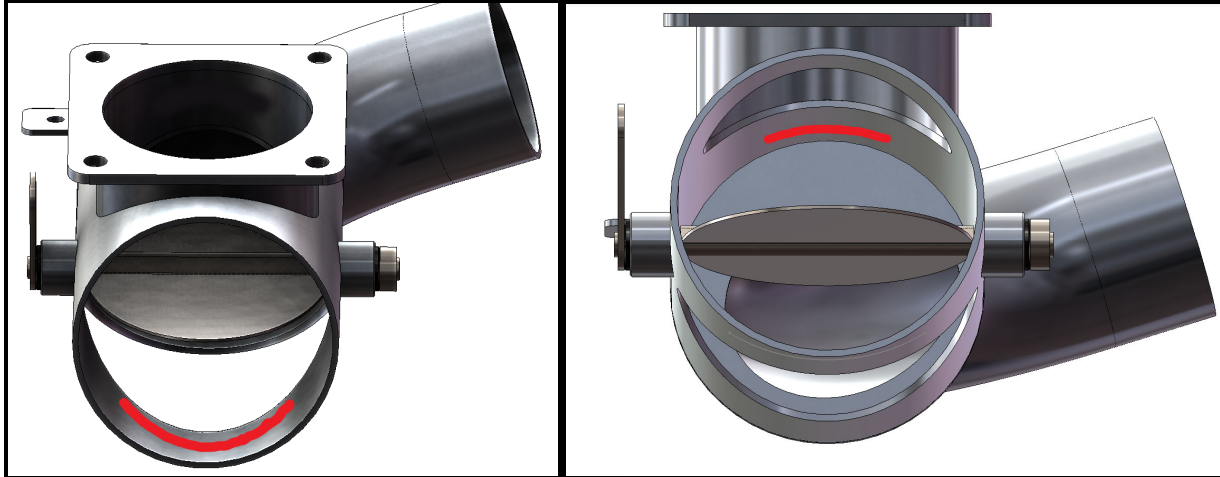

Figure 1 - Butterfly Valve Possible Fretting Locations
5. Visually inspect for any sign of fretting between the carburetor heat butterfly valve and the aluminum intake tube. See Figure 1 and sample image below.